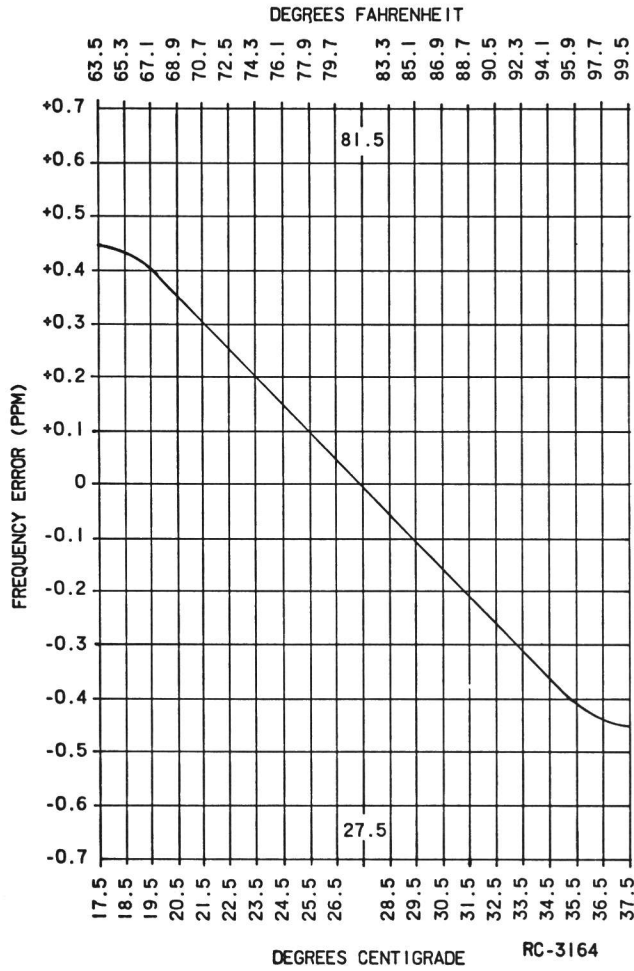

Figure 2 - Frequency Offset Chart
2. Maintain the radio at 27.5°C ($\pm 10^\circ\text{C}$) and offset the oscillator, as a function of actual temperature, by the amount shown in Figure 2.